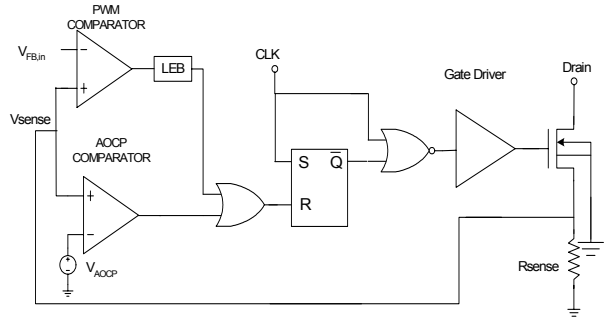

Figure 7. Abnormal Over Current Protection (AOCP)
4.3 Abnormal Over Current Protection (AOCP) : Even though the FPS has OLP (Over Load Protection) and current mode PWM feedback, these are not enough to protect the FPS when a secondary side diode short or a transformer pin short occurs. In addition to start-up, soft-start is also activated at each restart attempt during auto-restart and when restarting after latch mode is activated. The FPS has an internal AOCP (Abnormal Over Current Protection) circuit, as shown in Figure 7. When the gate turn-on signal is applied to the power Sense FET, the AOCP block is enabled and monitors the current through the sensing resistor. The voltage across the resistor is then compared with a preset AOCP level. If the sensing resistor voltage is greater than the AOCP level, pulse-by-pulse AOCP is triggered regardless of uncontrollable LEB time. Here, pulse-by-pulse AOCP stops the Sense FET within 350ns after it is activated.